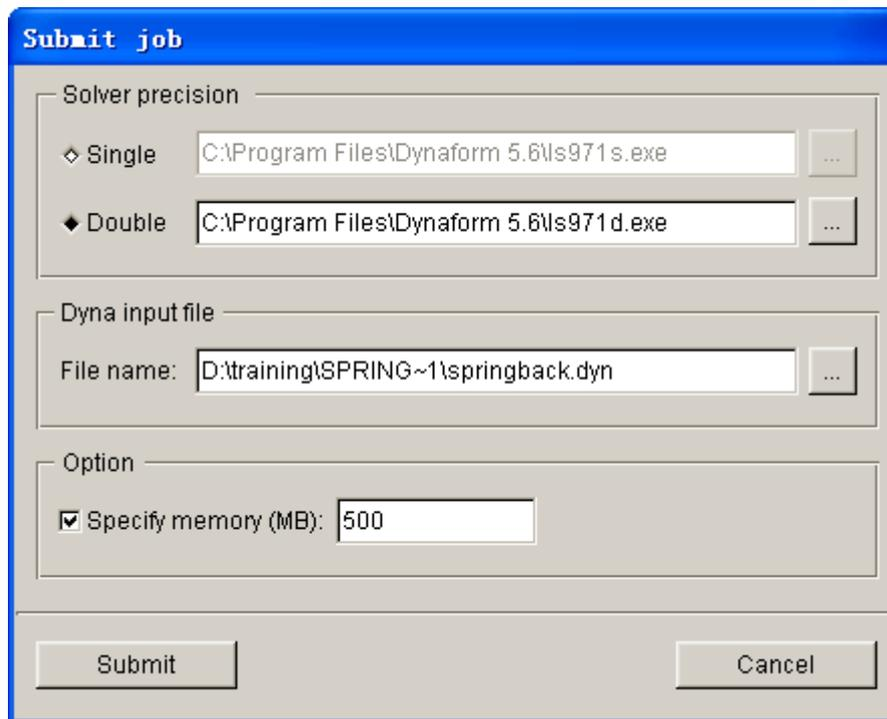

Figure 6.14 Submit job dialog box
2. The SUBMIT JOB dialog box illustrated in Figure 6.14.